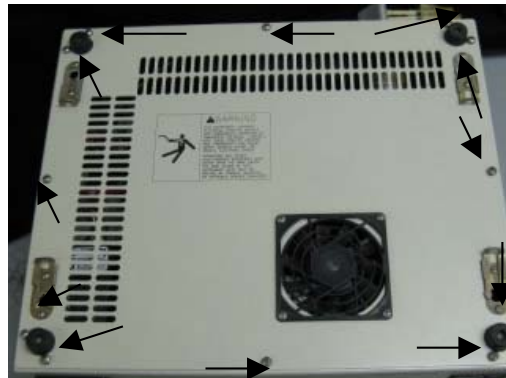

Figure 1
- 2) Turn the unit over and remove the (12) screws from the bottom cover. Fig. 1